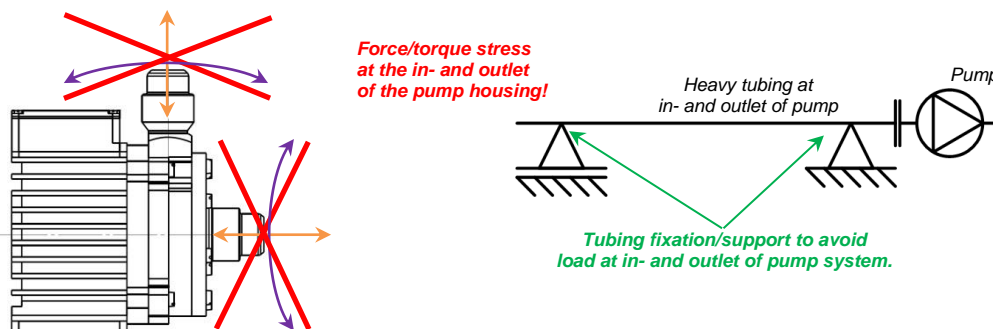

Figure 21: Avoidance of stress forces and torques at the inlet and outlet of the pump head
10. Load and stress at the inlet and outlet by heavy tubing and improper mounting alignment shall be avoided (see *Figure 21*) as this can cause leakage issues due to distortion of the plastic pump housing.